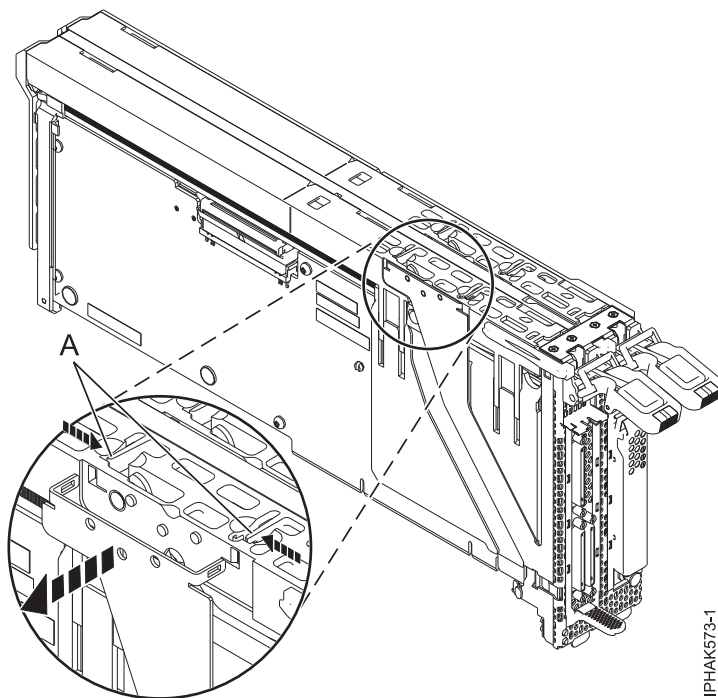

Figure 69. Detaching the face plate
6. Detach the outer arms of the face plate assembly by releasing the plastic locking tabs (A). See Figure 69.